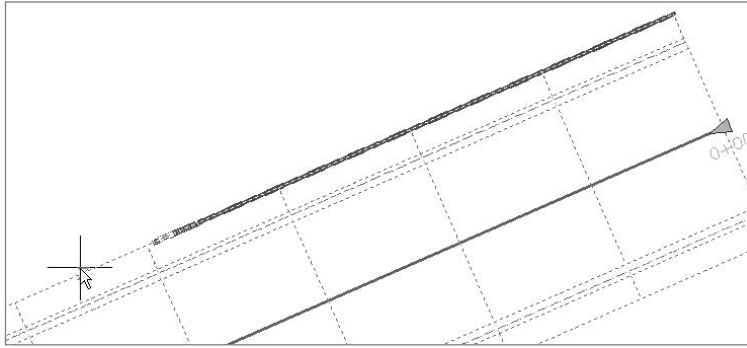

Figure A.83
7. Move your mouse and notice that a red jig follows your cursor along the chosen feature line, as shown in Figure A.83. It will continue to follow you until the end of a region.